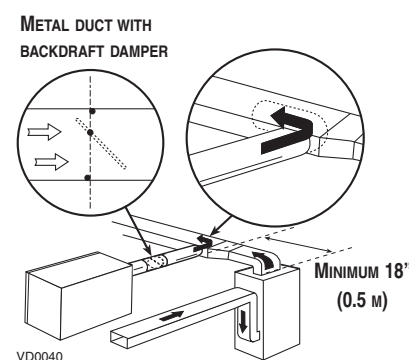

Figure 10
- Connect this opening to the fresh air distribution port of the HRV/ERV (use metal duct, see figure 10).